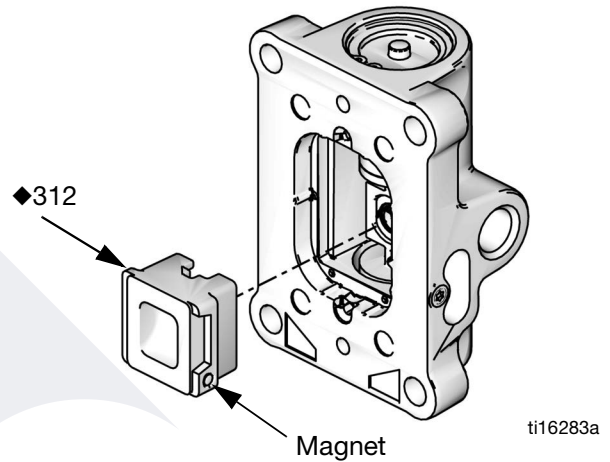

FIG. 19. Pneumatic Valve Cup Installation
7. Install the spring (311◆). Lubricate and install the pneumatic valve cup (312◆), see FIG. 19. Align the small round magnet with the pneumatic inlet.